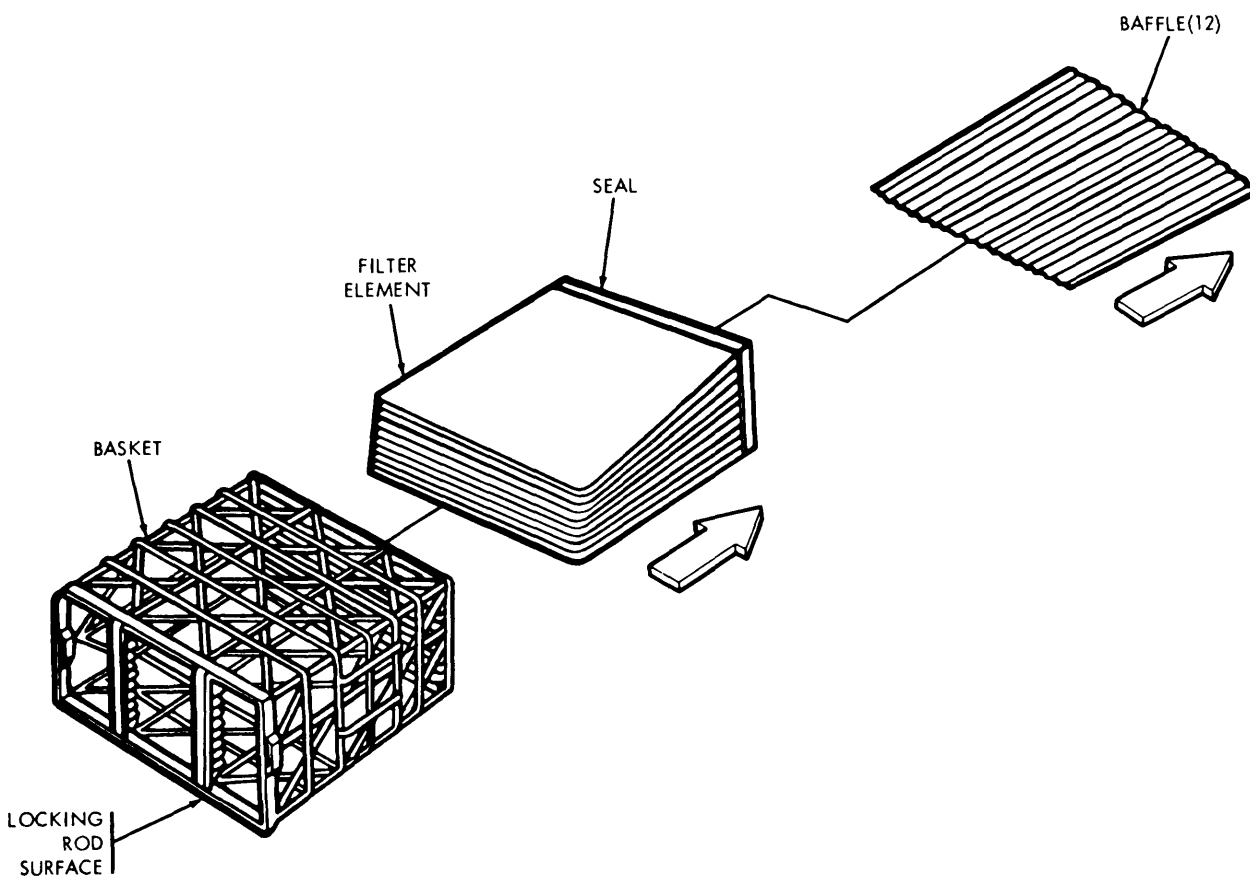

Figure 3-4. Side loading filter element inspection.
## (3) Side Loading Filter Element (Fig. 3-4).